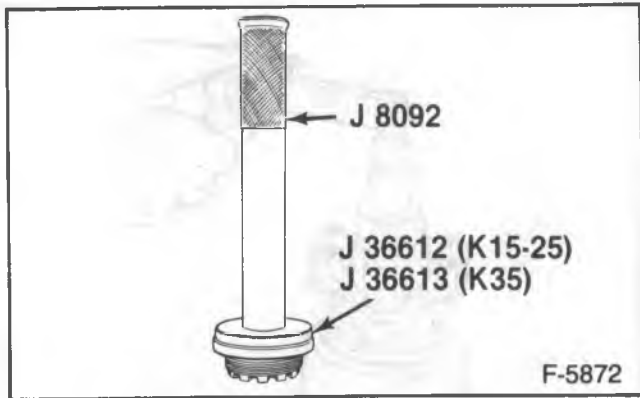

Figure 27—Installing the Adjuster Sleeve Bearing
1. Bearings (30) to the sleeves (32) and/or adjuster plug (61) (K35 models). Use J 8092 and J 36612 (K15-25 models) or J 36613 (K35 models) (figure 27).